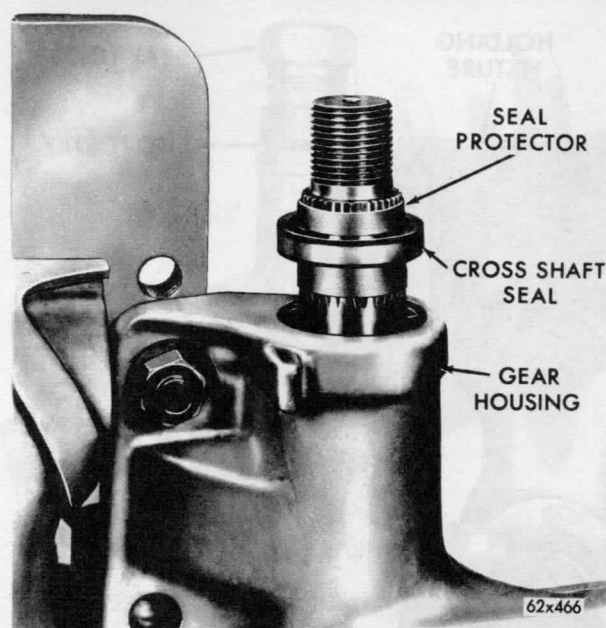

Fig. 17—Cross Shaft Oil Seal Protector (Tool C-3880)
(2) Place the seal and protector sleeve assembly onto the splines on the cross shaft with the lip of the seal facing the gear housing (Fig. 17).
(3) Slide the seal down off the protector sleeve onto the cross shaft and remove the sleeve.